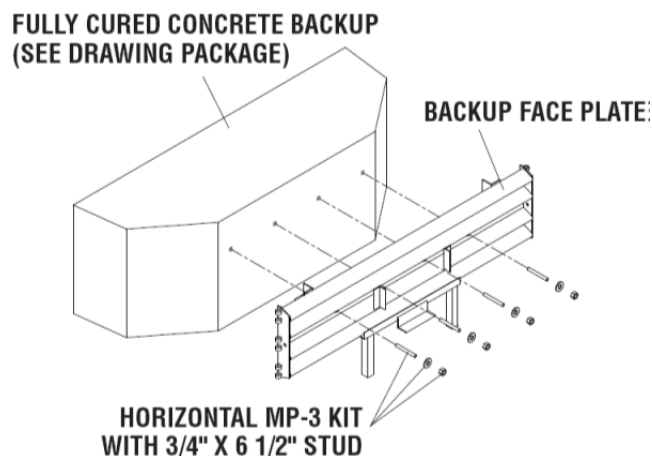

Figure 47
A) Concrete Backup Construction (Figure 47)